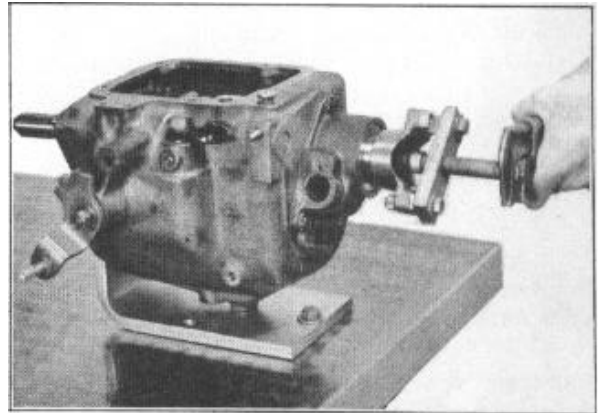

FIGURE 3
2. Remove drain plug at bottom of case and drain lubricant. Place case assembly in Holding Fixture J-1584 and bolt securely at front end of case with two clutch housing cap screws, Figure 3.
DO NOT HAMMER. Use Universal Joint Companion Flange Puller to remove a tight flange from mainshaft, Figure 3.